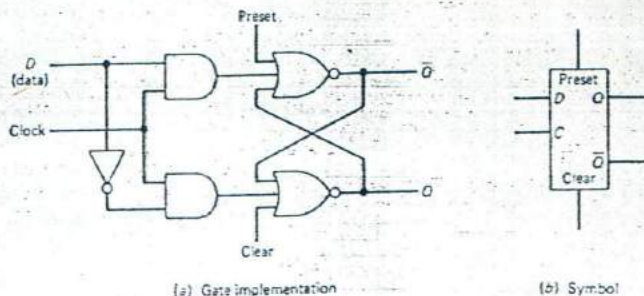

Fig. 11-20 Clocked D latch with asynchronous preset and clear.
Figure 11-20 shows a clocked D latch. The D input is the only synchronous input. An inverter has been added to supply inverted data to the bottom gate. If the D input is high during the clock window, a logic high is applied to the top NOR gate, and a logic low is applied to the set condition if it hasn't already been set. If the D input is low during the window, a high will be applied to the bottom NOR gate; it will reset the latch if it wasn't previously in that mode. The latch is said to be *transparent* because the output follows the data input during the time that the clock is high. The advantage of the D latch is that race has been eliminated at the synchronous input. It is also no longer possible to force the outputs to an illegal mode since there is only one input. However, it is still possible to race the latch and force the outputs to an illegal mode with the asynchronous preset and clear inputs.
20. Refer to Fig. 11-20. If the latch portion of the circuit were constructed with NAND gates instead of NOR gates, what gates should be substituted for the AND gates to ensure an identical timing diagram?
21. Refer to Fig. 11-20. Is it possible to "race" this latch? If so, at which input(s)?